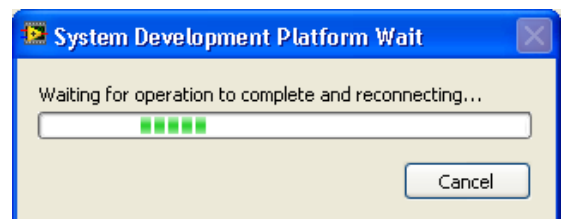

Figure 16. Software Connects to SDP Board
4. The software then connects to the board and displays what is shown in Figure 16.